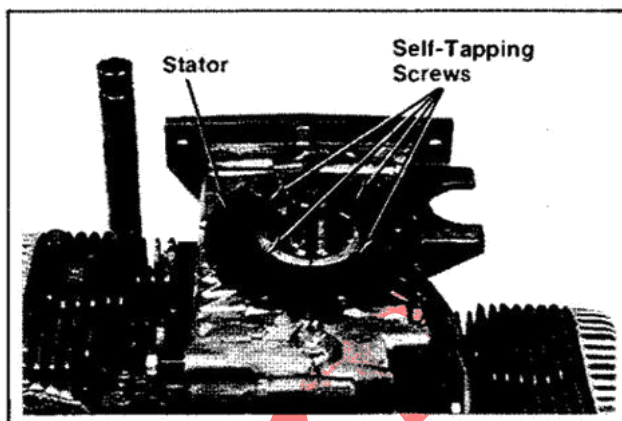

Figure 9-25. Removing Stator.
1. Remove the self-tapping screws and stator. Refer to Figure 9-25.